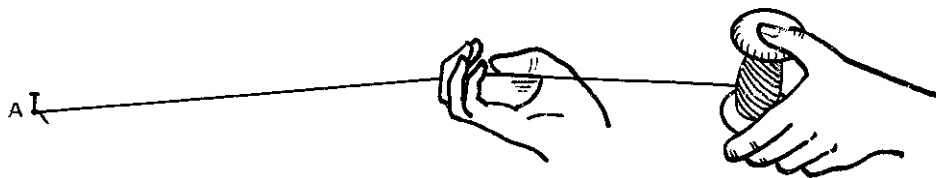

Fig. 4-49 Method of chalking line
1. Hook the loop of one end of the line over a nail at the layout point as at A, figure 4-49.